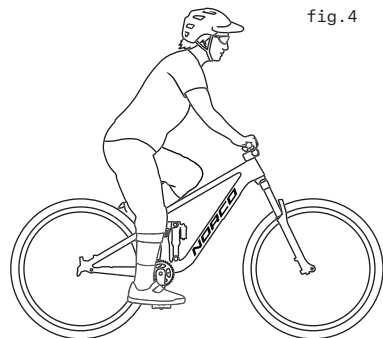

fig.4
1. Up and down adjustment. To check for correct saddle height (fig.4):